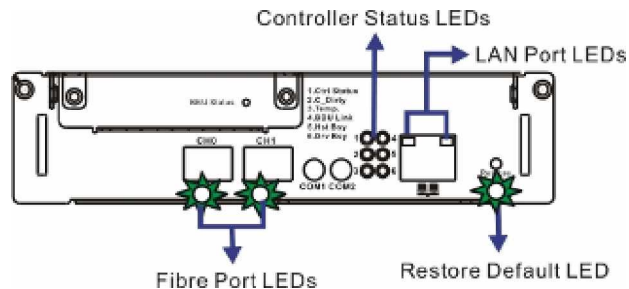

Figure 4-7: LEDs on the Controller Module
The rear panel of the controller module is shown in **Figure 4-7**. Four (4) groups of LEDs are present and are described in the following sub-sections.
Each controller module houses two (2) FC-4G host ports. Each of these Fibre ports has one (1) LED (see **Figure 4-7**) to indicate the status of each port. When the LED illuminates static green that means the FC loop is linked. When the right LED is unlit, that indicates the loop is not linked.
A restore default LED is located below the restore default button on the right of the controller rear panel. (See **Figure 4-7**) To restore the controller settings to its factory default, press and hold the restore default button before turning on the subsystem by pressing the power switches on the PSUs. The restore default LED lights green to indicate the controller has returned to its original settings.